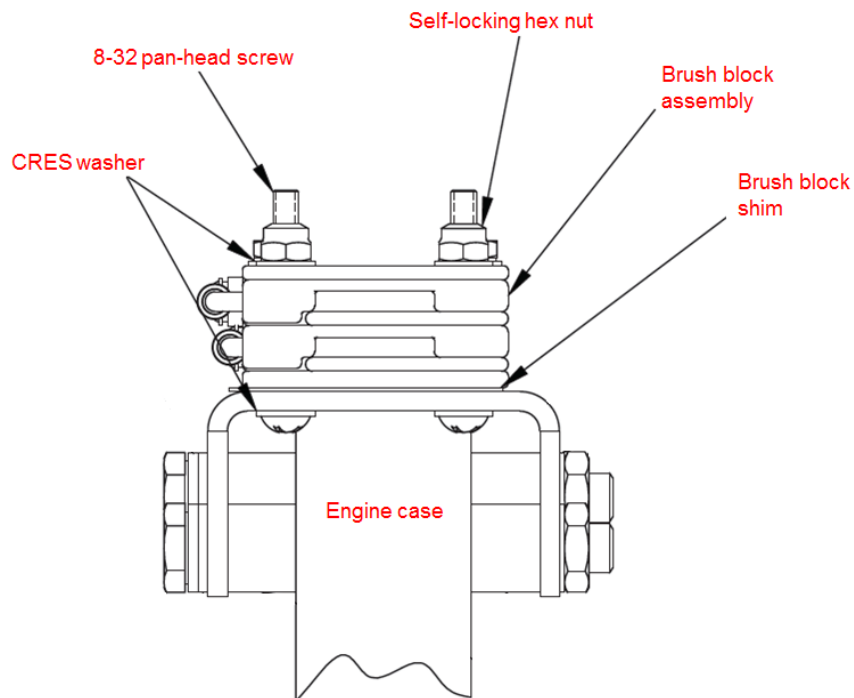

Figure 1: Brush Block Assembly Hardware Detail - View Looking Aft
- iii. Temporarily position brush block shim 1H1157 and brush block assembly 3H2062-2 onto the brush block bracket 106803 using the hardware stack-up shown in Figure 1. For ease of alignment, do not torque hardware at this time.